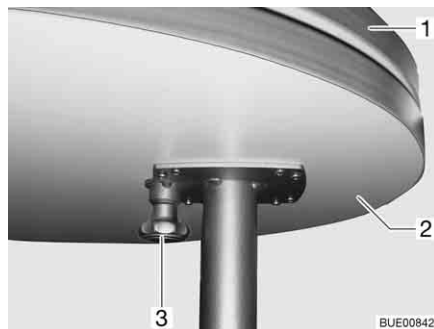

Fig. 92 Fixed table
*Extending:* ■ Pull the knob (Fig. 92,3) of the lock down and swing out the table-top extension (Fig. 92,2).
*Reducing size:* ■ Swing the table-top extension (Fig. 92,2) under the table-top (Fig. 92,1) until the lock latches in place audibly.